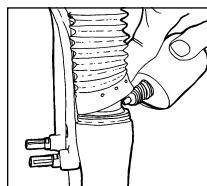

Fig. 5
2. Using a small blade screwdriver, carefully push the dust wipers up from the lower tubes. To prevent scratching the upper tubes, cover the screwdriver tip with a soft cloth. (See Fig. 5)